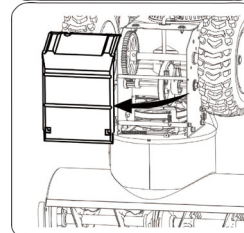

Figure 22
2. Carefully pivot the snow thrower up and forward so that it rests on the auger housing. Remove the frame cover from the underside of the snow thrower by removing four self-tapping screws which secure it. See Figure 22.